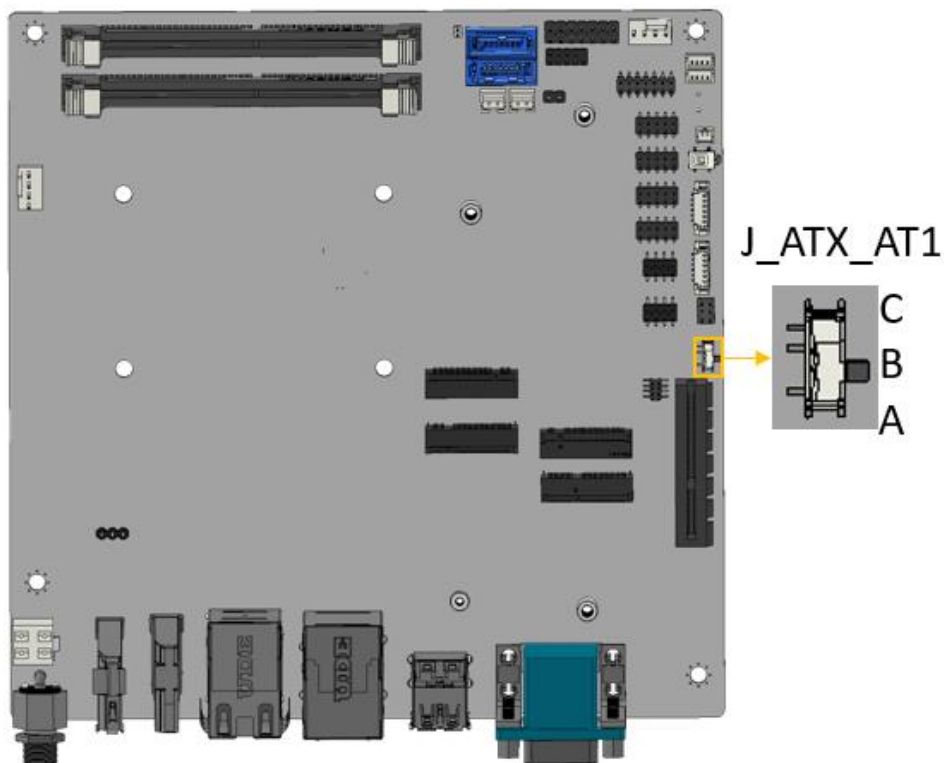

Figure 3-3: AT/ATX Power Mode Switch Locations
- CN Location:** See Figure 3-3
The AT/ATX power mode selection is made through the AT/ATX power mode switch which is shown in Figure3-3.